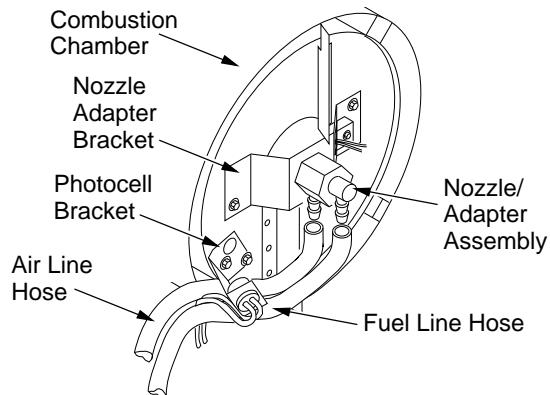
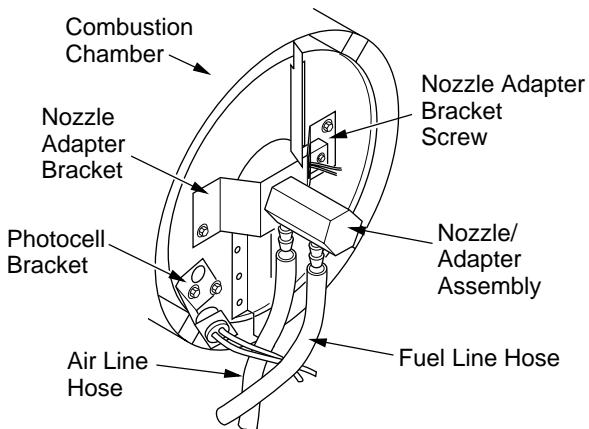
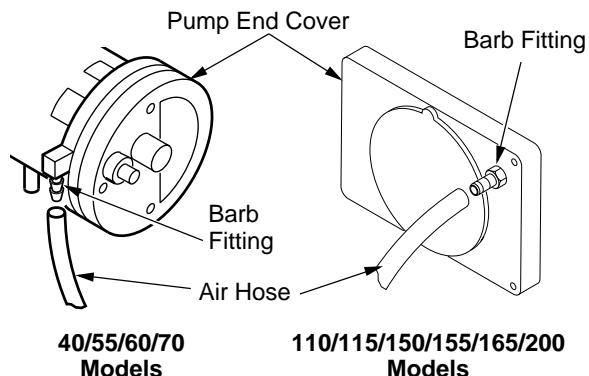

**Figure 21 - Removing Air and Fuel Line Hoses
Figure 26 - Removing Air and Fuel Line Hoses (200 Model Only)
Figure 28 - Air Hose to Barb Fitting
14. Replace photocell in photocell bracket. Route wires as shown in either (see Figures 21, 22 or 23, page 12 or Figure 26, page 13).
3. Remove fuel and air line hoses from nozzle assembly (see Figure 21, 22, or 23).
3. Remove two nozzle adapter bracket screws (see Figure 26).
4. Inspect fuel and air line hoses for cracks and/or holes. If fuel line hose is damaged, disconnect from nozzle adapter (see Figure 21, 22, or 23, page 12, or Figure 26) and from fuel filter (see *Fuel Filter*, pages 9 and 10). If air line hose is damaged, disconnect from nozzle adapter (see Figure 21, 22, or 23, page 12, or Figure 26) and from barb fitting on pump end cover (see Figure 28).
5. Install new air and/or fuel line. Attach one end of air line hose to barb fitting on pump end cover (see Figure 28) and the other end to nozzle adapter (see Figure 21, 22, or 23, page 12, or Figure 26). Attach one end of fuel line hose to fuel filter (see *Fuel Filter*, pages 9 and 10) and the other end to nozzle adapter (see Figure 21, 22, or 23, page 12, or Figure 26).
**Note:** Route hoses as shown in see Figure 21, 22, or 23, page 12, or Figure 26, according to model. Hoses are not to touch photocell bracket.